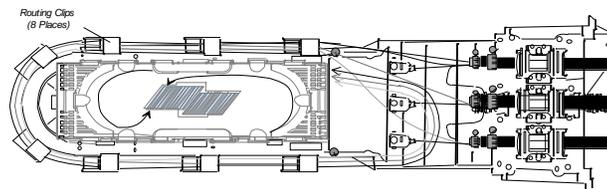

Figure 16b - Routing Drop/Lateral Side Cables and into the splice tray - Note the fiber direction is counterclockwise to prevent micro bends
- 15.05 Temporarily install a splice tray onto the tray support. While maintaining minimum bending radii, route a bundle up and into the tray. Place a mark on the bundle for the desired opening (this routing will provide sufficient working slack and bare fiber for splicing). Refer to **Figure 16b**.